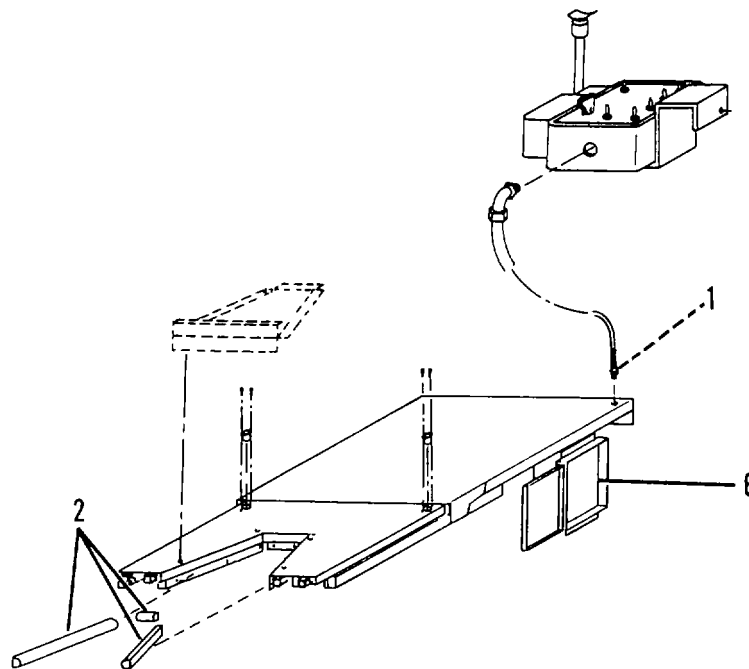

Figure 4-33.1. Platform Cables.
- (12) Install bumper (1 and 2, Figure 4-33.1) and limit switch cables through fittings in junction box (6) using tags for identification.